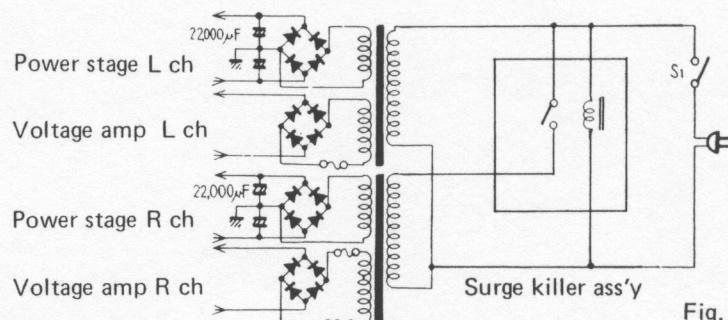

Fig. 3
4.3 POWER SUPPLY CIRCUIT (Fig. 3)